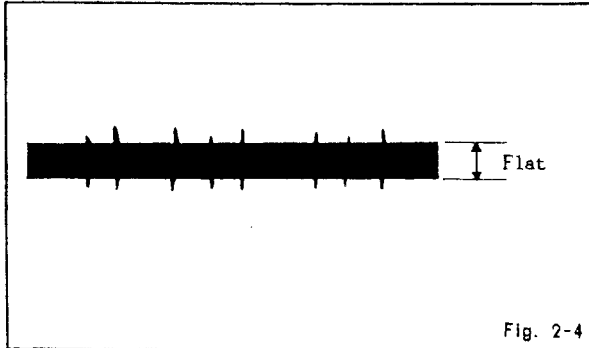

Fig. 2-4
3. Adjust the VR4005 so that the waveform of CH-1 is straight as shown in Fig. 2-4.